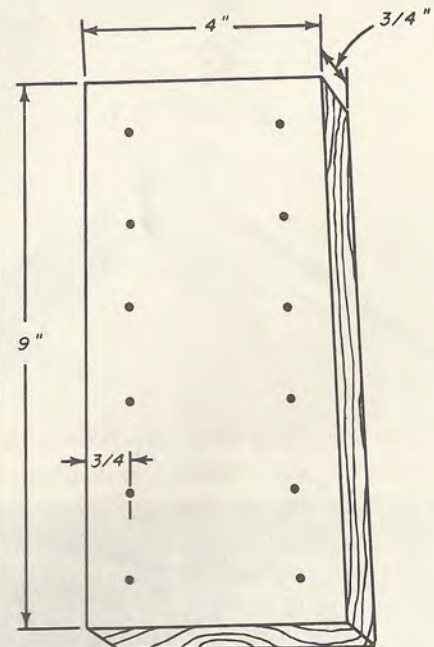

Fig. 1-13
Step 2. The 12 lugs are to be mounted on the 4 x 9-inch breadboard. So, with a pencil, mark off two rows of six dots, as shown in Fig. 1-13.